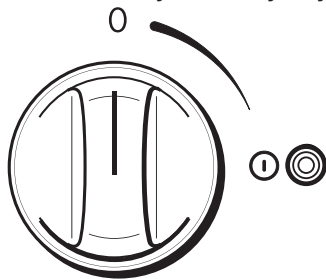

Fig. 1.4
- Turn the changeover switch knob to the ON position (ⓘ) (fig. 1.4); the power indicator light comes on.